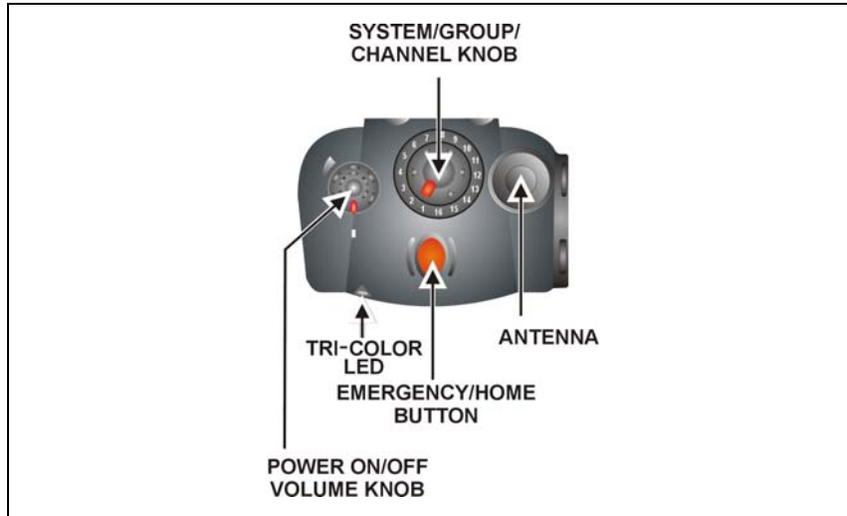

Figure 1: Top View
1. Power ON the radio by rotating the POWER ON-OFF/VOLUME knob clockwise. A short alert signal (if enabled through programming) indicates the radio is ready to use. Refer to Figure 1 for location of the POWER ON-OFF/VOLUME KNOB.